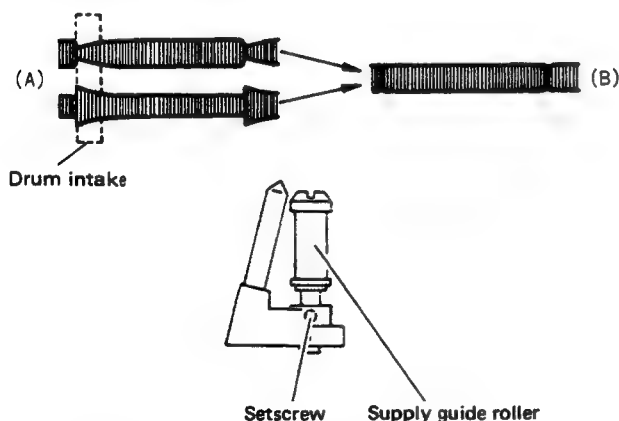

Fig. 2-29 Drum intake waveform adjustment
10. Turn the tracking control to maximum FM waveform output. If the portion at the drum intake appears as shown by (A) in Fig. 2-29, adjust the supply guide roller to obtain a flat waveform as shown by (B).